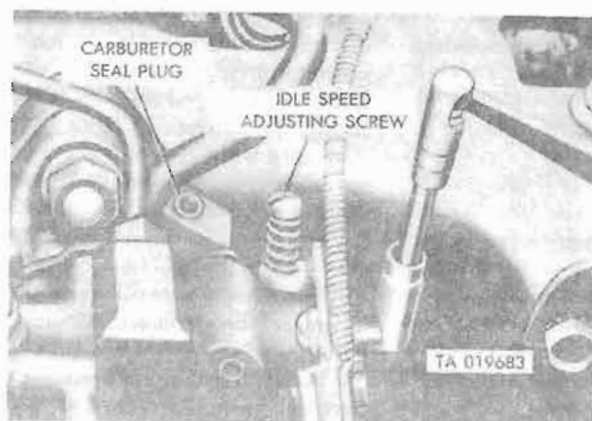

Figure 2-19.1. Idle Speed Adjusting Screw.
- (2) Check to see that the engine timing and dwell are properly adjusted.
- (3) Warm up the engine to normal operating temperature.
- (4) Turn the idle adjustment screw until the engine reaches 700 rpm.
- (5) Remove seal plug (fig. 2-19.1) and turn mixture adjustment screw using Allen Wrench counterclockwise until the maximum rpm is reached.
- (6) Turn idle adjusting screw until engine reaches 700 rpm.
- (7) Turn mixture adjustment screw clockwise until engine reaches 640-650 rpm.
- (8) Disconnect the tester dwell tachometer from engine.
- (9) Install a new seal plug in the carburetor idle mixture adjustment screw hole.
Figure 2-19.1 is added as follows: